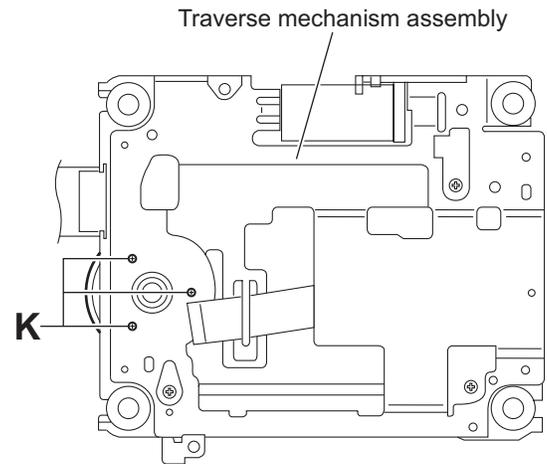

Fig.13
- (2) From the bottom side of the traverse mechanism assembly, remove the three screws **K** attaching the spindle motor board. (See Fig.13.)